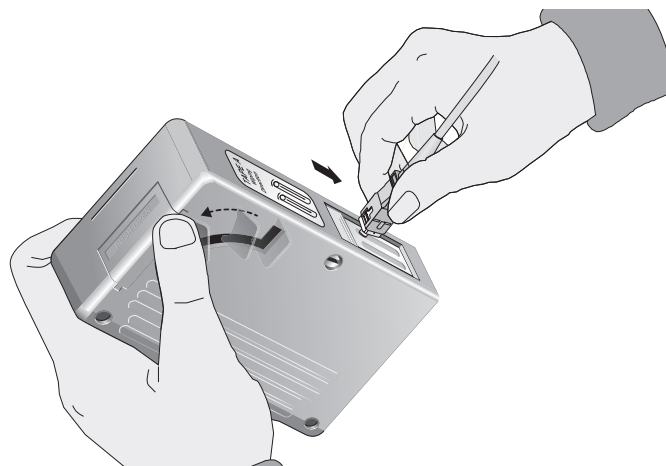

Figure 21. Rubbing the Ferrule Tip on the Cleaning Surface
5. With one hand, hold the cartridge cleaner and push the lever on the cleaning cartridge in the direction of the arrow to expose the cleaning surface, as shown in Figure 21.
6. Place the ferrule tip on the exposed cleaning surface and rub the ferrule in a downward direction, as shown in Figure 21.
1. Insert the swab into the adapter as shown in Figure 21 and rub the ferrule tip with the swab.